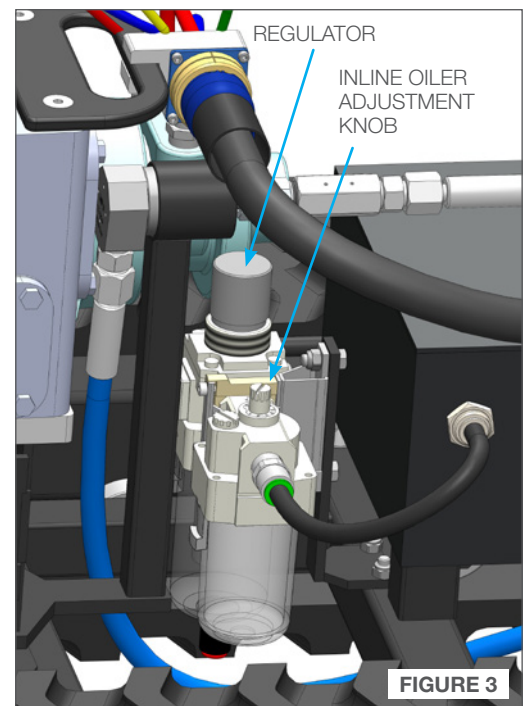

FIGURE 3
2. Use the Regulator on the Filter, Regulator, Lubricator (FRL) to adjust the operating pressure to 110 psi (0.76 MPa) for the application. **(Figure 3)**
3. Adjust inline oiler on the FRL to feed 1 drop of oil every 15-30 seconds for high speed or continuous duty usage. **(Figure 3)**